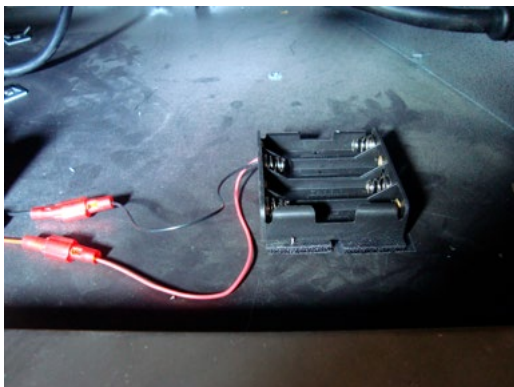

Figure 10 Battery holder wires
2. Connect the red and black wires from the battery holder to the red and black wires from the valve harness. See Figure 10.